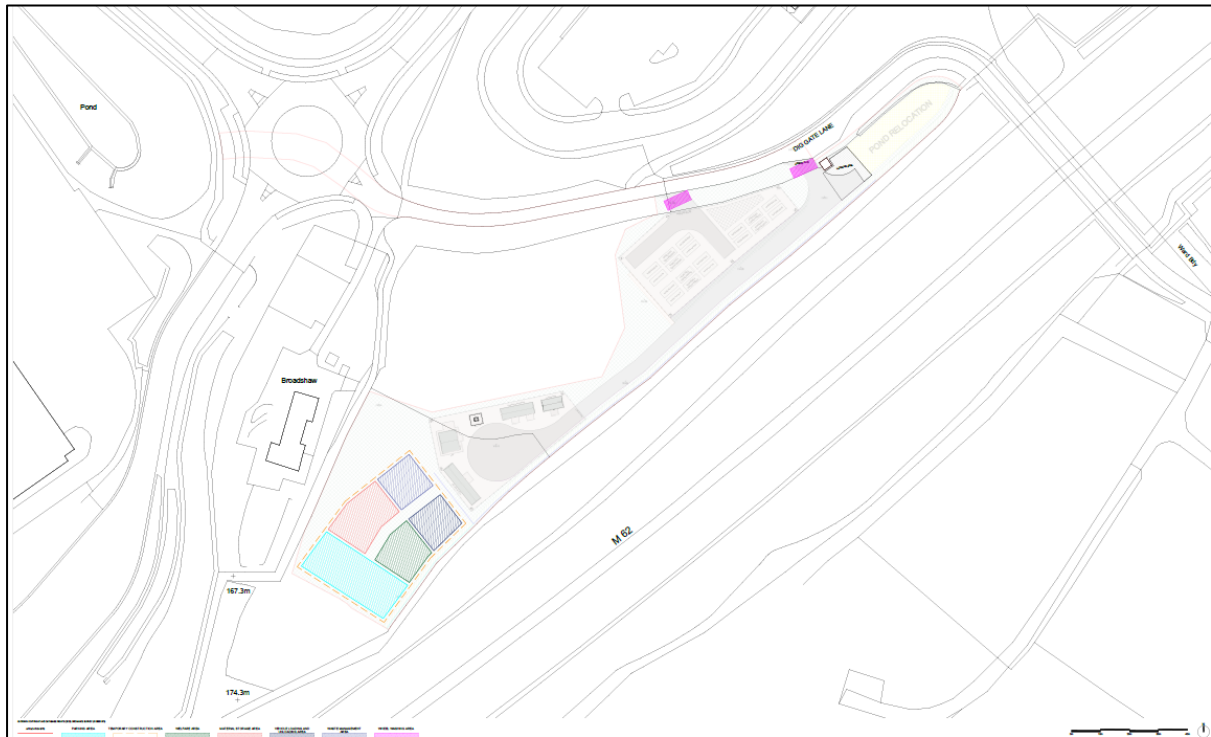

Figure 2 - Temporary Construction Compound Plan
A Temporary Construction Area lies within the southwestern corner of the Site as shown on the Construction Management Plan drawing (ref. 058 - PL - OL164NR - 204), provided in Figure 2 below and Appendix 1.